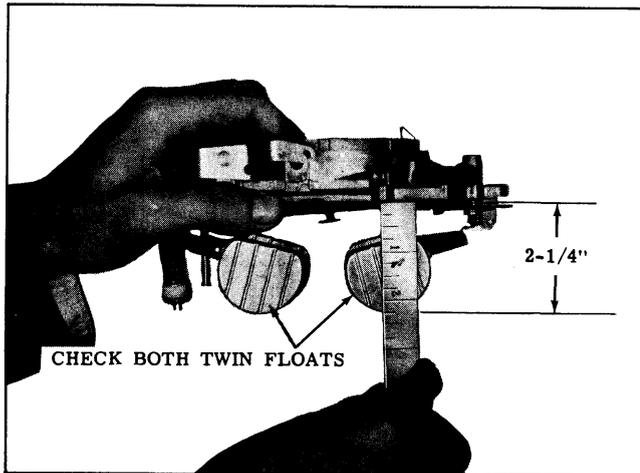

Fig. 8-102 Float Drop Adjustment
1. Holding a six inch scale against the air horn gasket, measure the float drop as shown in Fig. 8-102. The distances should be 2-1/4".